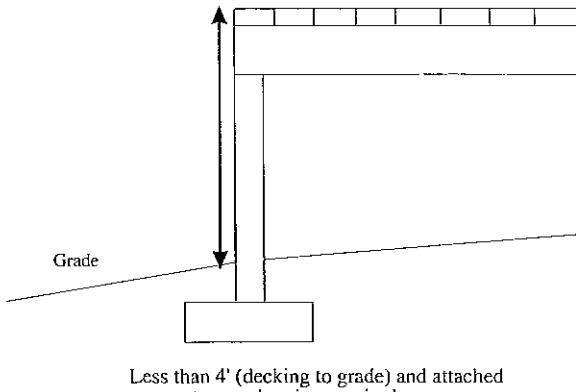

FIGURE AM109
**AM109.1.1.** When the deck floor height is less than 4'-0" above finished grade per Figure AM109 and the deck is attached to the structure in accordance with Section AM104, lateral bracing is not required.